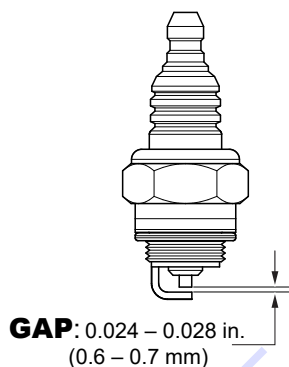

Figure 30. Spark Plug Gap
3. Remove and clean the spark plug (Figure 30), then adjust the spark gap to 0.024 ~0.028 inch (0.6~0.7 mm). This unit has electronic ignition, which requires no adjustments.